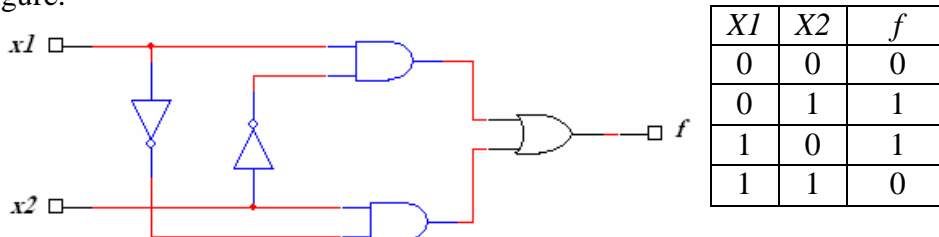
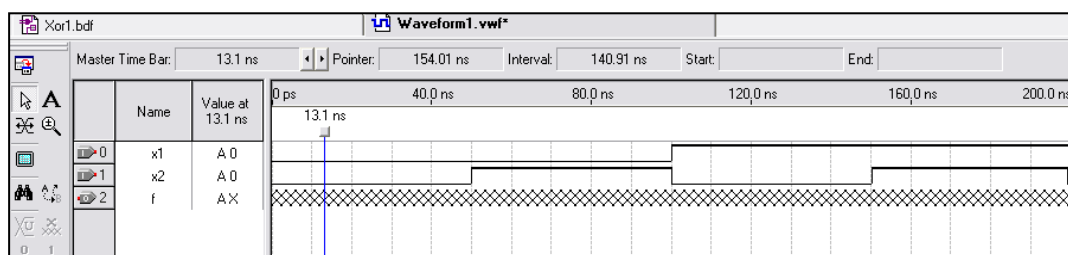

Figure 9. The Xor function circuit.
Figure 32. Setting of test values.
As a design example, we will use the Xor circuit shown in Figure 9. The circuit has two input switches $x1$ and $x2$, where a closed switch corresponds to the logic value 1. The truth table for the circuit is also given in the figure.
However, for our tiny circuit we can simulate all different combinations (00, 01, 10, 11) given in Figure 9. We will use four 50-ns time intervals to apply the four test vectors. We can generate the desired input waveforms as follows. **Click on the waveform name for the x1 node.** Once a waveform is selected, the editing commands in the Waveform Editor can be used to draw the desired waveforms. Commands are available for setting a selected signal to 0, 1, unknown (X), high impedance (Z), don't care (DC), inverting its existing value (INV), or defining a clock waveform. Each command can be activated by using the **Edit > Value** command or via the toolbar for the Waveform Editor. The Edit menu can also be opened by **right-clicking on a waveform name.**
Set x1 to 0 in the time interval 0 to 100 ns, which is probably already set by default. Next, set x1 to 1 in the time interval 100 to 200 ns. Do this by **pressing the mouse at the start of the interval and dragging it to its end**, which highlights the selected interval, and **choosing the logic value 1 in the toolbar.** Make x2 = 1 from 50 to 100 ns and also from 150 to 200 ns, which corresponds to the truth table in Figure 9. This should produce the image in Figure 32. Observe that the output f is displayed as having an unknown value at this time, which is indicated by a hashed pattern; its value will be determined during simulation. **Save the file as Xor1.vwf.**